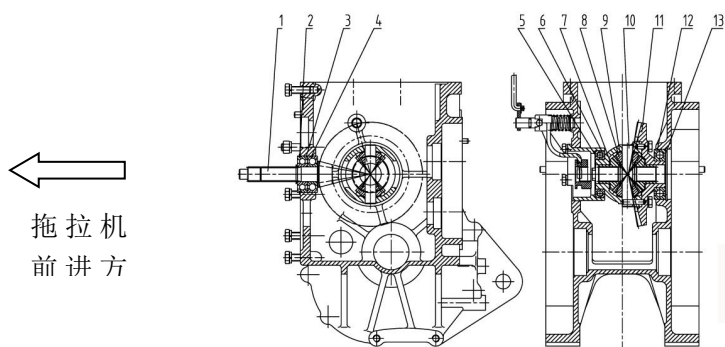

Figure 6-3 Central drive and differential
The two bearings (12) at both ends of the differential and the bearing on the driving conical gear shaft should have a certain pre-load during assembly in order to reduce the axial displacement of the central drive conical gear pair under working conditions and increase their supporting rigidity. But the original preload will gradually disappear due to the wear of the bearings after the tractor has been used for a period of time. There will be a gap between the two pairs of bearings. The bearings should be re-tensioned when the gap is greater than 0.1mm (see Figure 6-3).
When the pre-load of the bearing 6305N (3) of the driving conical gear needs to be readjusted during regularly maintenance (every three class of maintenance), loosen the lock washer and tighten the round nut to make the two conical bearings produce a certain amount of pre-load force, the torque to rotate the conical gear shaft (the frictional resistance torque of the bearing) is $(2.5 \sim 5) \text{ N}\cdot\text{m}$ and then lock the round nut with a lock washer (see Figure 6-3).
不正常印痕	减小第二轴的调整垫片1，使小弧齿锥齿轮后移（见图6-3）
增加第二轴的调整垫片1，使小弧齿锥齿轮前移（见图6-3）
正常印痕	增加右侧面大弧齿锥齿轮的调整垫片5，左侧面减少数量相等的调整垫片，使大弧齿锥齿轮右移（见图6-3）
增加左侧面大弧齿锥齿轮的调整垫片5，右侧面减少数量相等的调整垫片，使大弧齿锥齿轮左移（见图6-3）